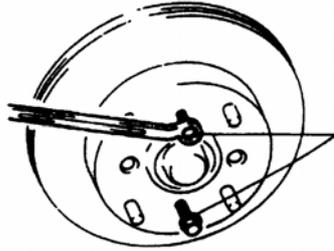

FIG.16-20 1.M8 bolt
(4) Draw disc from hub using two M8 bolts. (FIG.16-20)